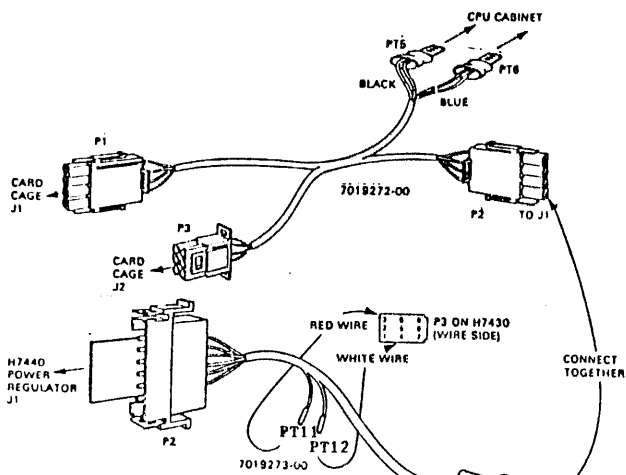

Figure 3-10. DC Power Cable
2. Locate the DC power harness, DEC part numbers 7019272-00 and 7019273-00 (see Figure 3-10), and its black and blue wires labeled PT5 and PT6. Connect the black wire to -5.2 ground and the blue wire to -5.2H in the CPU Cabinet (see Figure 3-2).
6. Locate the red and white wires labeled PT11 and PT12 of DC power cable (see Figure 3-10). Disconnect P3 atop power supply H7420 number 1, then connect PT7 and PT8 to pins 3 and 4, respectively, on P3 of the H7420. Then reconnect P3 to the H7420.